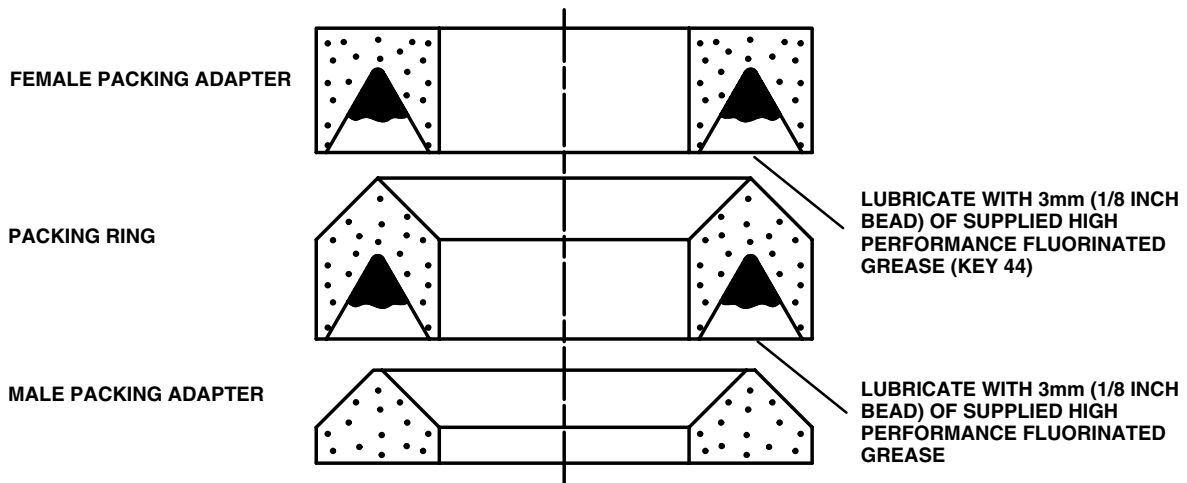

Figure 5. Lubrication Locations on Packing
3. Apply a 3mm (1/8 inch) bead of the supplied high performance fluorinated grease (key 38) around the groove of the female packing adaptor as shown in figure 5 and install over the valve stem.
4. Apply a 3mm (1/8 inch) bead of the supplied high performance fluorinated grease (key 38) around the groove of the packing ring as shown in figure 5 and install over the valve stem.